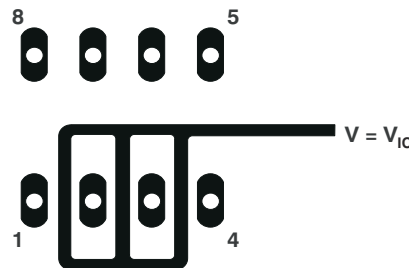
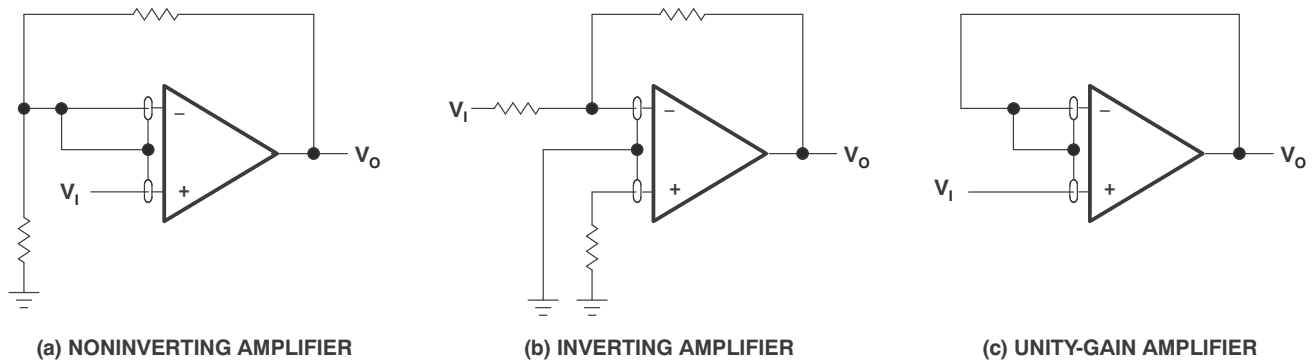

Figure 6-4. Isolation Metal Around Device Inputs (P package)
Figure 7-5. Guard-Ring Schemes
1. Isolate the device from other potential leakage sources. Use a grounded shield around and between the device inputs (see Figure 6-4). Leakages that can otherwise flow to the inputs are shunted away.
Because of the extremely high input impedance and resulting low bias-current requirements, the TLC27L1 is an excellent choice for low-level signal processing. However, leakage currents on printed-circuit boards and sockets sometimes easily exceed bias-current requirements and cause a degradation in device performance. As best practice, include guard rings around inputs (similar to those of Figure 6-4 in the *Parameter Measurement Information* section). Drive these guards from a low-impedance source at the same voltage level as the common-mode input (see Figure 7-5).